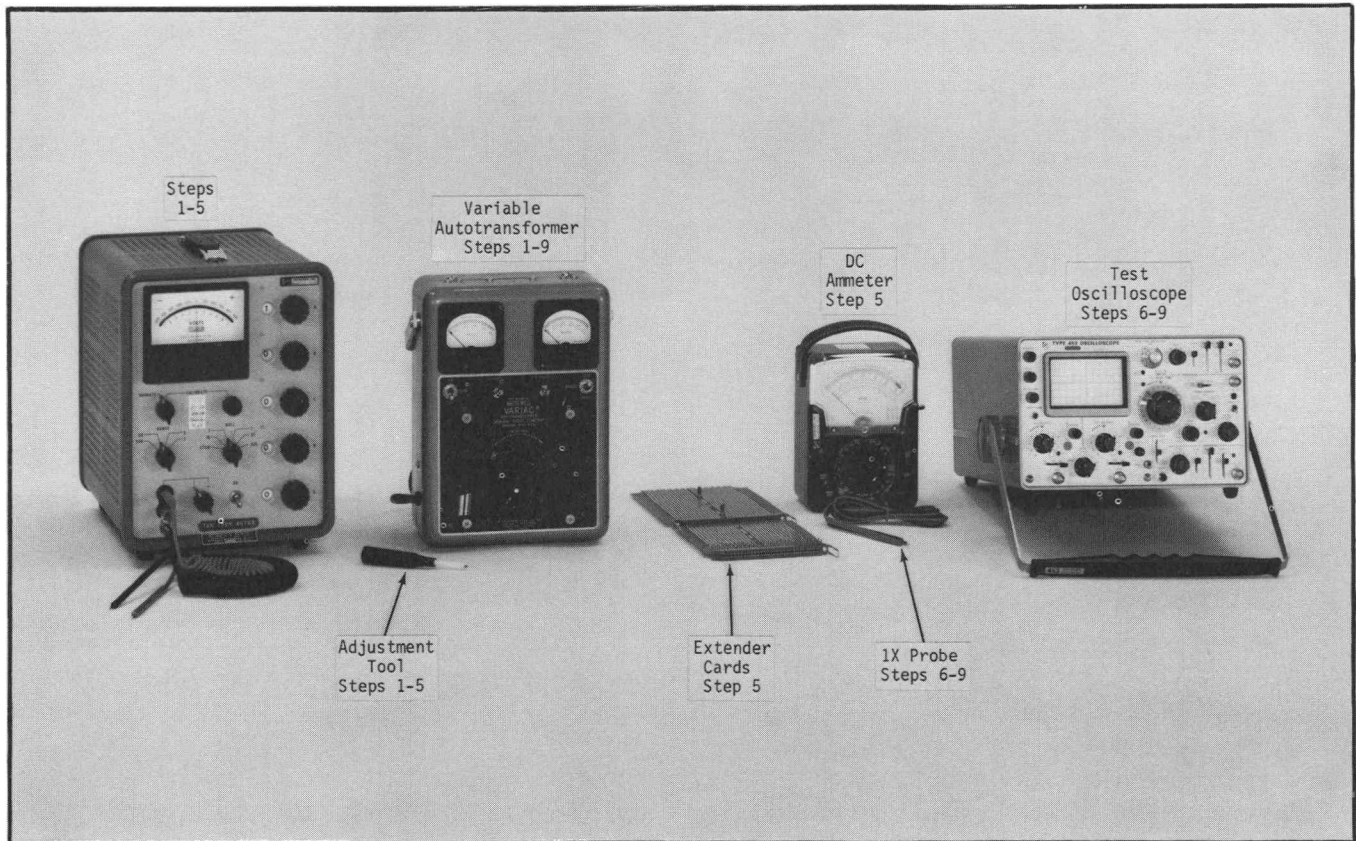

Fig. 4-1. Test equipment required for steps 1-9.
The following test equipment or its equivalent is required for complete calibration of the Type R250 (see Fig. 4-1). Specifications given are the minimum necessary for accurate calibration of this instrument. All test equipment is assumed to be correctly calibrated and operating within the given specifications. If equipment is substituted, it must meet or exceed the specifications given for the recommended equipment.
The procedure uses the equipment listed under Test Equipment Required. The equipment is shown in Fig. 4-1 at the beginning of the procedure. If substitute equipment is used, control settings or test equipment connections may need to be altered to meet the requirements of the equipment used.
1. Adjust +20-Volt Regulator ①
- a. The test equipment setup is shown in Fig. 4-1.